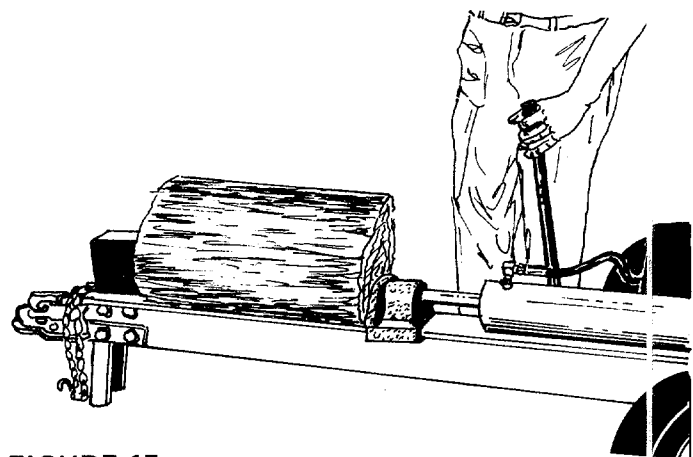
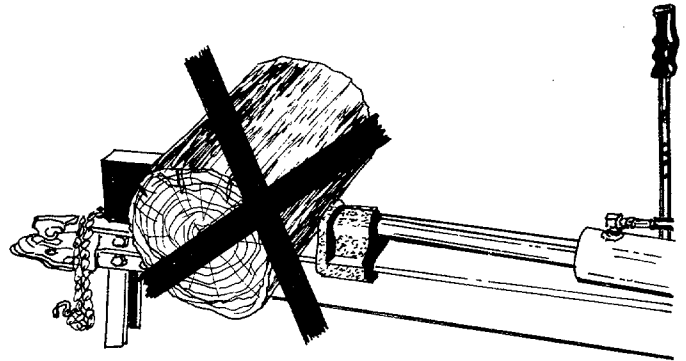
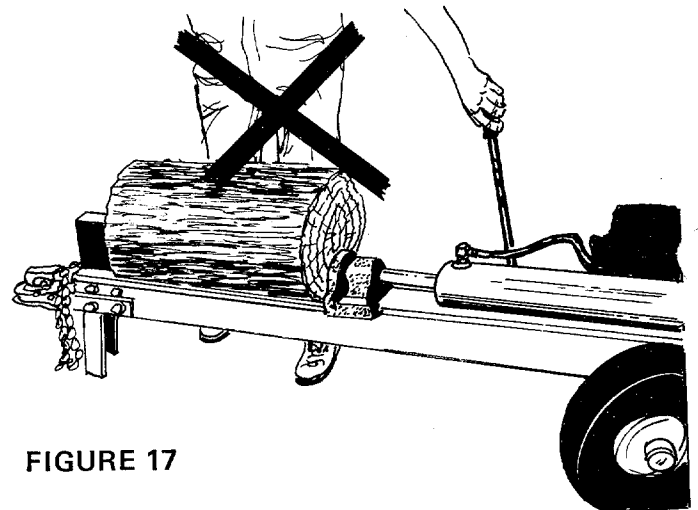

FIGURE 15
FIGURE 16
FIGURE 17
4. Remove your hand from the log and step behind the ram. See figure 15.
Never attempt to cut a log in half with the log splitter. See figure 16. Never stand next to the ram when operating. See figure 17. Always stand behind the ram as shown in figure 15.